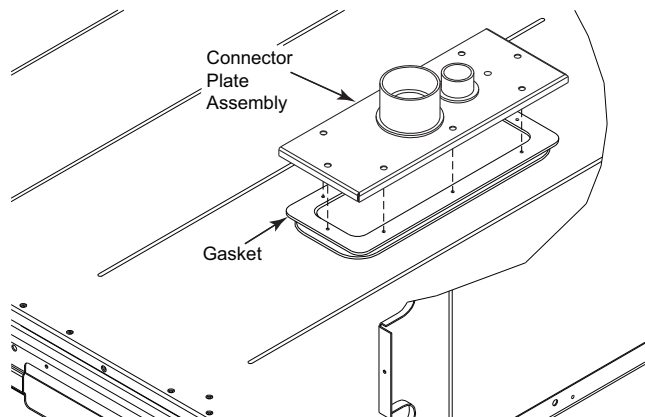

Fig. 40 — Completing Installation of Thru-the-Base Option
3. Place the gasket over the embossed area in the basepan, aligning the holes in the gasket to the holes in the basepan. See Fig. 40.